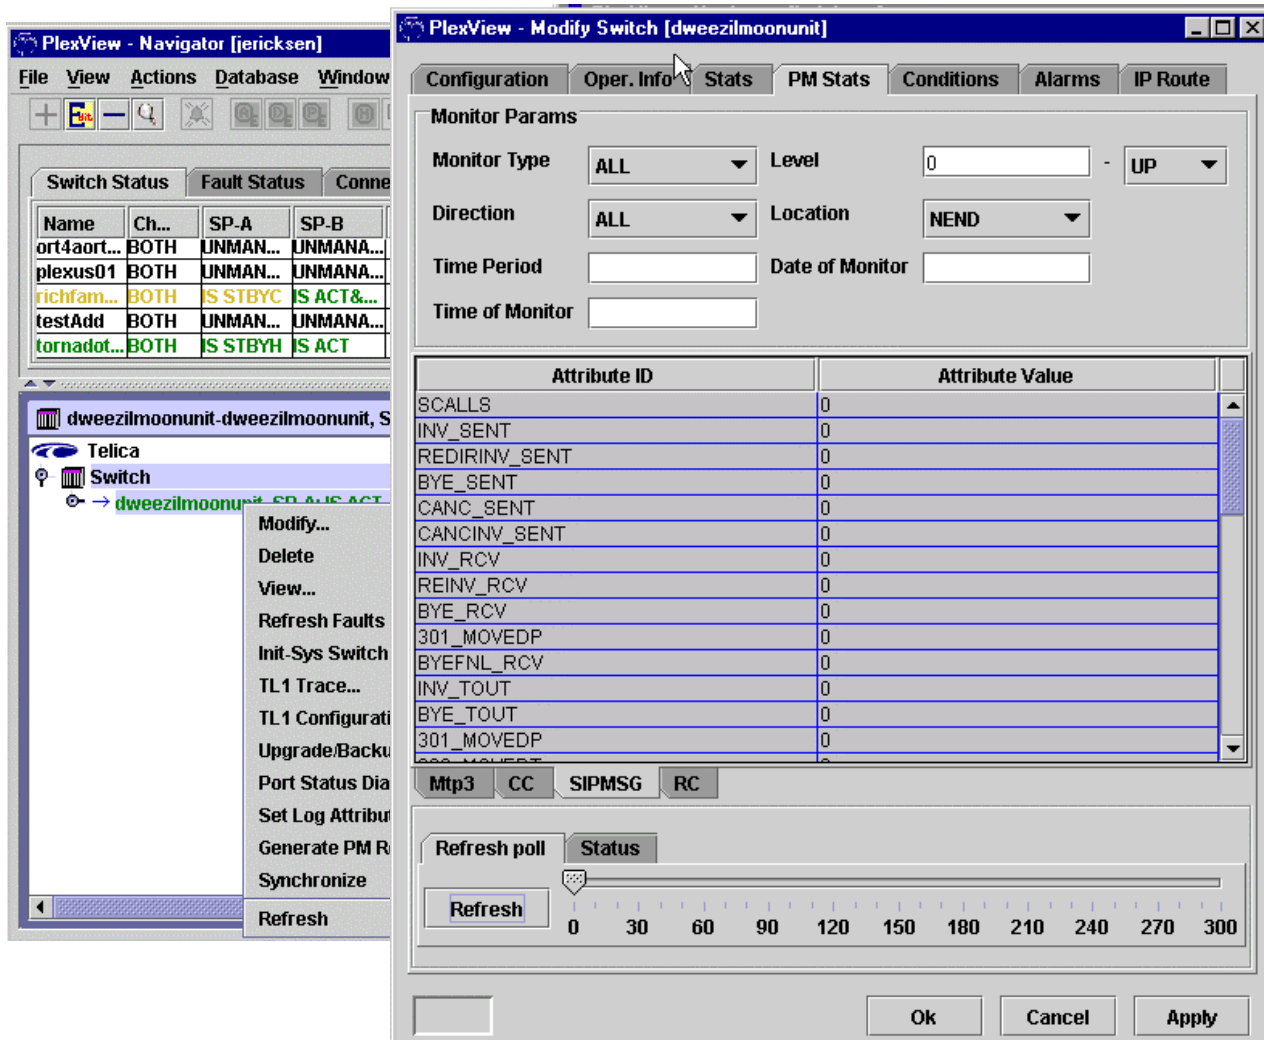

Figure 1. PM Stats of SIP Messages
4. Retrieve current and historical performance data related to SIP (Session Initiation Protocol) messages. Double-click the switch, Right-click the *switch name*, click *View* and then select *PM Stats* tab near the top and the *SIPMSG* tab near the bottom. See Figure 1.
6. Initialize registers or event counters for SIP (Session Initiation Protocol) message statistics. Double-click the switch, Right-click the *switch name*, click *Modify* and then select *PM Stats* tab near the top and the *SIPMSG* tab near the bottom. Make required changes and then click *Ok* or *Apply*. See Figure 1.